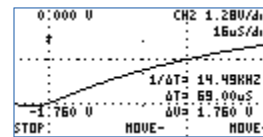

Figure 64: Half-life measurement
- 12) The display should look like figure 64. The measured time  $T_{1/2} = 69\mu s$ , is the "half-life" time, so  $RC = 99.95\mu s$